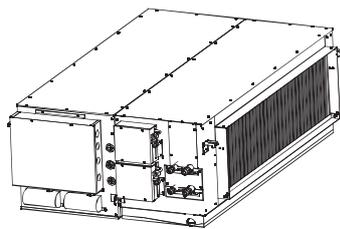

Fig.4-20
1. The indoor unit show as Fig. 4-20.